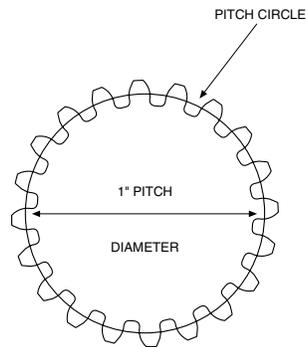

Figure 2.2B, A gear with 20 teeth and a 1" Pitch Diameter is 20 Pitch.
**Pitch Diameter:** *the diameter of the pitch circle (See Figure 2.2B)*